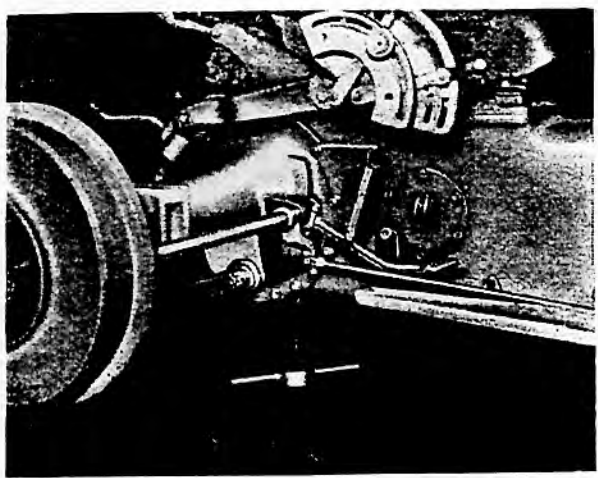

FIG. 18. DIFFERENTIAL LOCK PEDAL WEDGED IN ENGAGEMENT
2. Remove differential lock return spring and wedge pedal in engaged, downward, position as shown in Fig. 18.